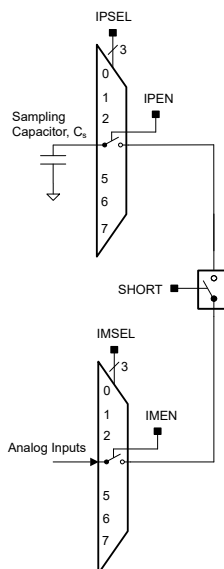

Figure 6-4. Comparator Short Switch
As shown in Figure 6-4, the required sampling time is proportional to the size of the sampling capacitor (CS), the resistance of the input switches in series with the short switch (R), and the resistance of the external source